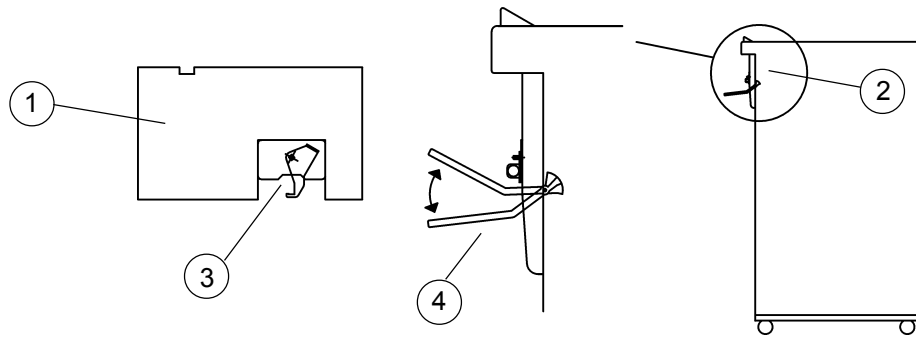

Figure 6
1. Take the mounting template (1) and hold it to the output on the printer finisher (2). Take the exit arm catcher (3), remove the adhesive from the back of the catcher. Install the catcher on the printer. Lift up the exit paper arm and set onto the catcher (4). Figure 6